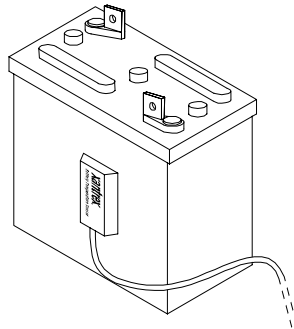

Figure 2-7 BTS Mounting
6. Mount the sensor directly on top of the ring terminal, as shown in Figure 2-7, and firmly tighten the terminal nut.
4. Peel the backing from the self-adhesive strip on the rear of the sensor. Press the sensor firmly against the clean side of the battery to fix it in place, as shown in Figure 2-7.